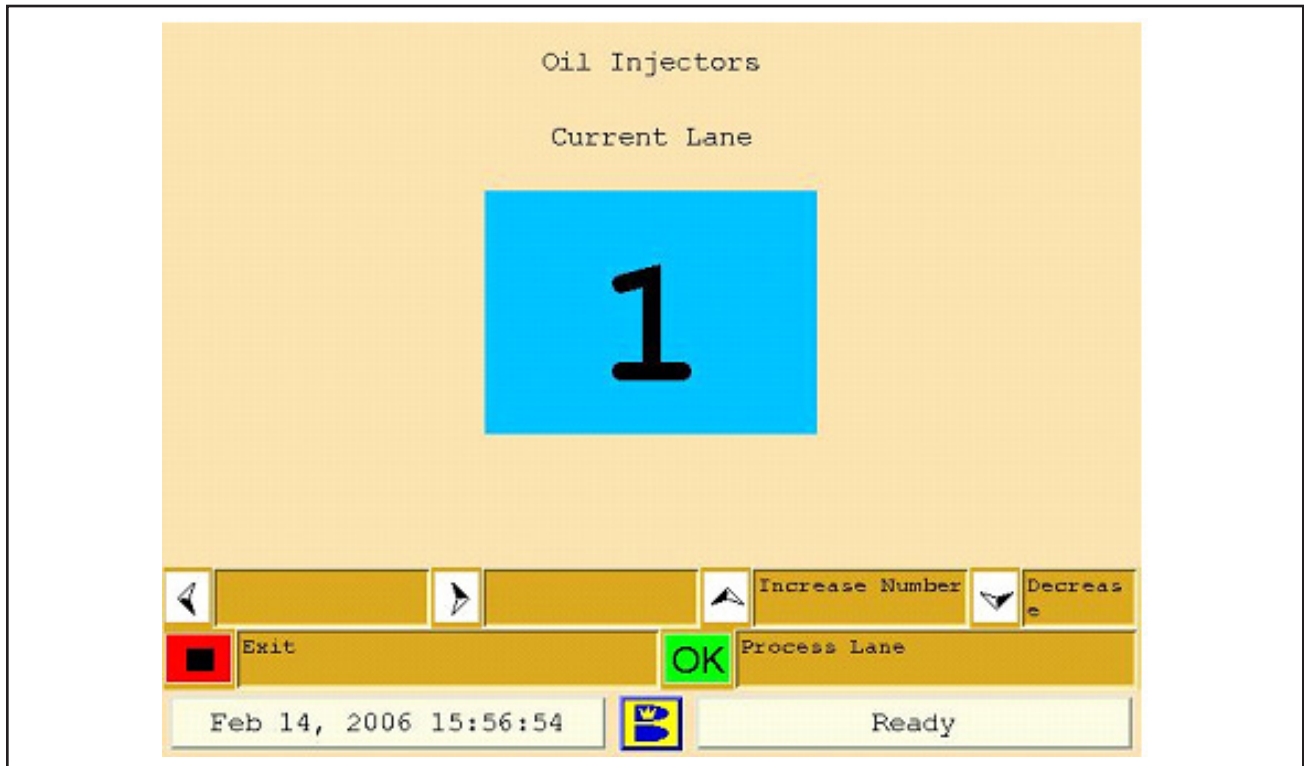

Figure 4-31. Oil Injectors
4. Select the Oil Injector test, press “OK” and the following screen will appear (“Oil Injector” will appear at the top of the screen for the injector test). Refer to Figure 4-31.